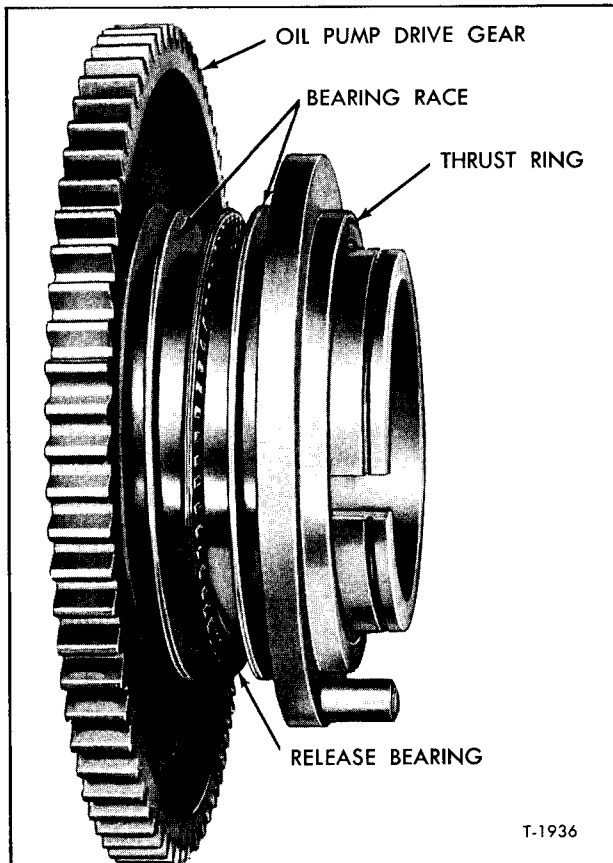

Figure 5—Oil Pump Drive Gear Assembled To Clutch Diaphragm Spring
3. Install hub of oil pump drive gear through diaphragm spring (fig. 5) with long finger of spring in gear hub slot.
4. Install retaining washer with spherical edge toward diaphragm spring and secure with retaining ring (fig. 5).